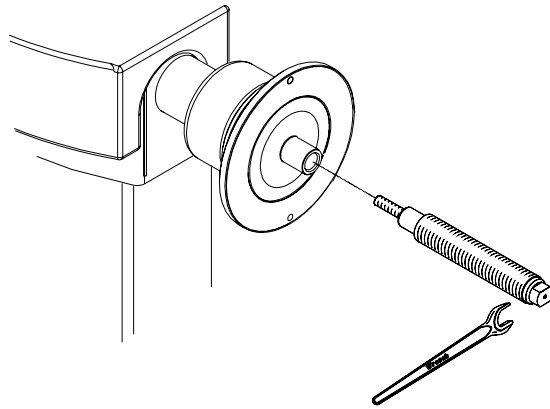

Figure 7
A. Mount the threaded shaft onto the arbor of the balancer. Tighten firmly using the supplied wrench. (Fig.7).